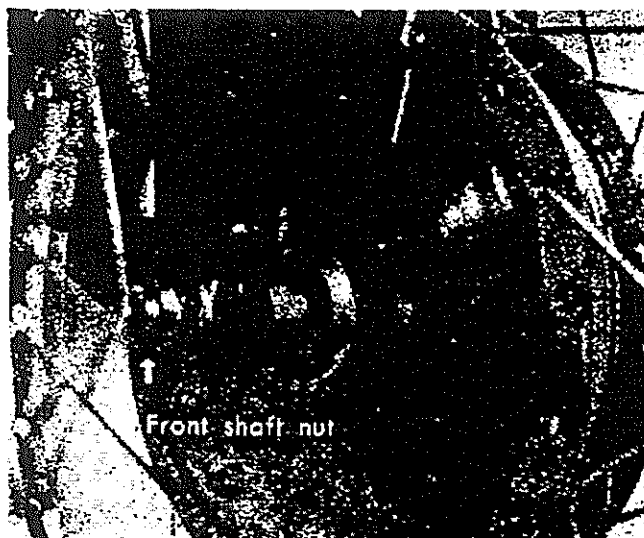

Fig. 38
- b) Unscrew axle bolt, tension bar bolt and withdraw front shaft by turning it anti-clockwise. (Fig. 38, 39)